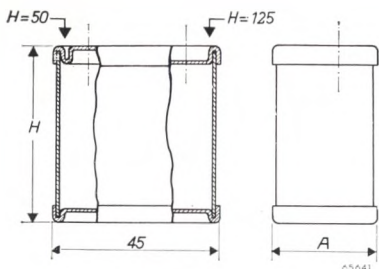

Fig. 1
* 7.5 mm when A (fig. 1) = 15 mm